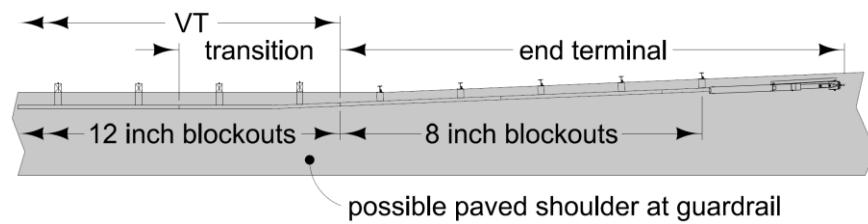

Figure 1: Transition for LS-635.
- A cell has been created for the dsnGuardrail.cel library: **MGS_VT_to BA-205_or BA-225**. This transition cell is placed immediately downstream of the end terminal, see Figure 1.